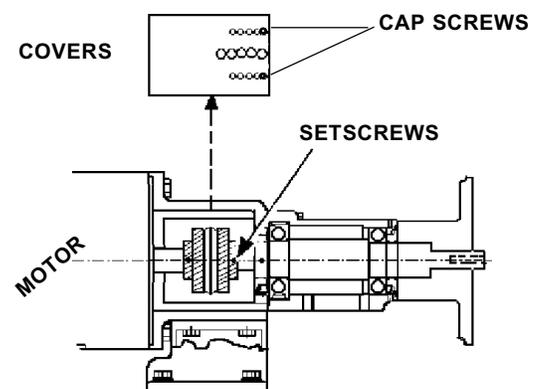

Figure 5
2. Remove the coupling covers (cap screws). Loosen the set screws on the pump coupling. (Figure 5)